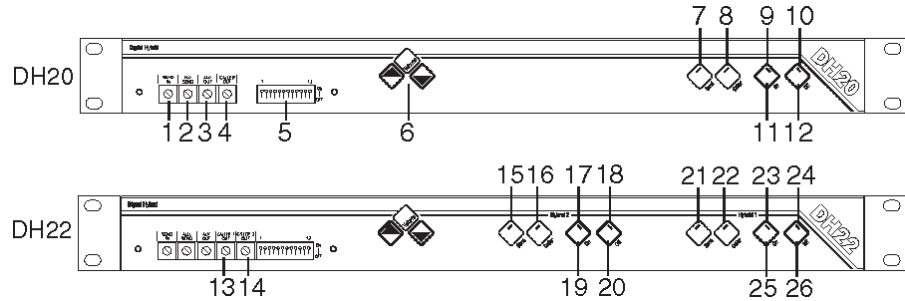

Figure 2a. Digital hybrid models front-panel controls: (Top) DH20, (Bottom) DH22
3. *AUX Out*. This trim pot (See Figure 2a, below.) will adjust the level of the aux-out audio. At its midpoint, 12 o'clock, the trim pot is set for nominal caller level (0dBm).